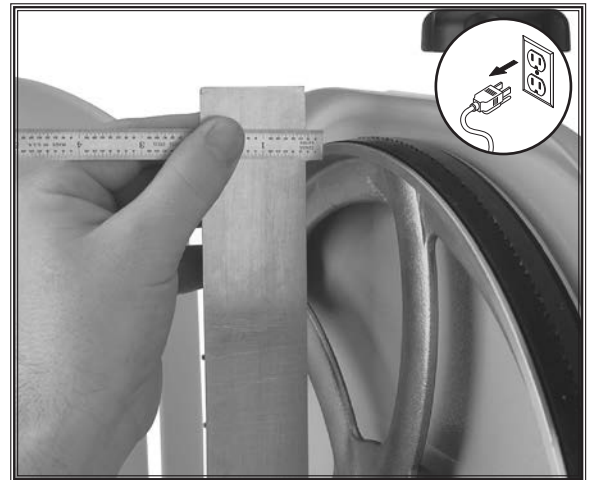

Figure 105. Example of measuring the distance to shim the wheel to be coplanar.
3. With coplanarity gauge touching both rims of wheel that does not need to be shimmed out, measure distance away from other wheel with a fine ruler (see **Figure 105**). The distance measured with ruler is distance this wheel must be shimmed.